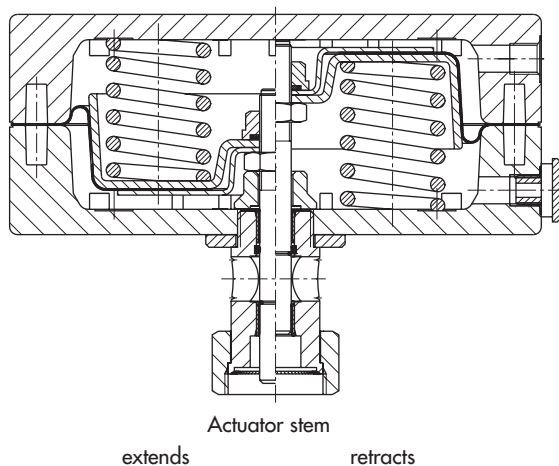

Fig. 3 · Type 2780-1 Actuator (cross section)
Depending on which fail-safe action is to be used by the control valve when the air supply fails, the springs in the actuator are installed either in the top or in the bottom diaphragm chamber (see Figs. 3 and 4). In both cases, the loading pressure is applied to the other diaphragm chamber.
- **Actuator stem extends**, when the air supply fails, the spring force moves the actuator stem to its lower end position (see Figs. 3 and 4 on the left).
- **Actuator stem retracts** when the air supply fails, the spring force moves the actuator stem to its upper end position (see Figs. 3 and 4 on the right).